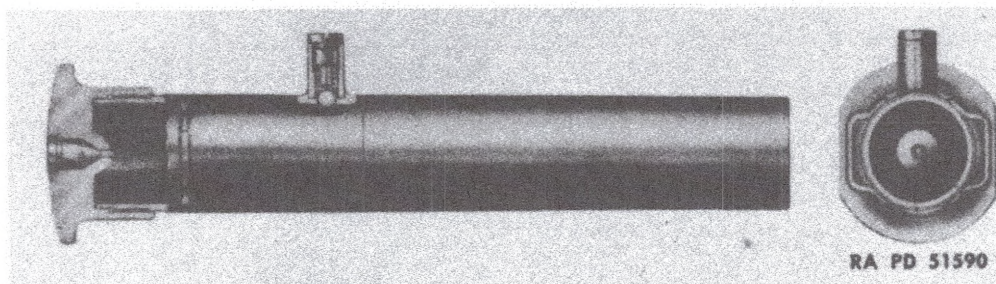

Figure 2 — Projector, Signal, Ground, M3
(2) GROUND SIGNAL PROJECTOR M3 (fig. 2). This is a single-loading, manually-operated projector used by ground troops for signalling between